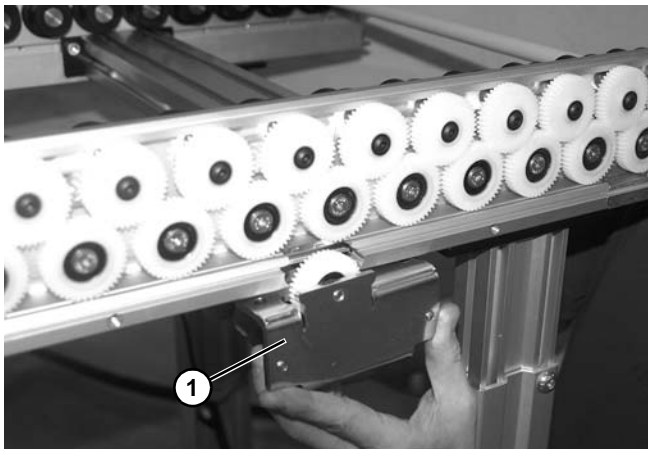
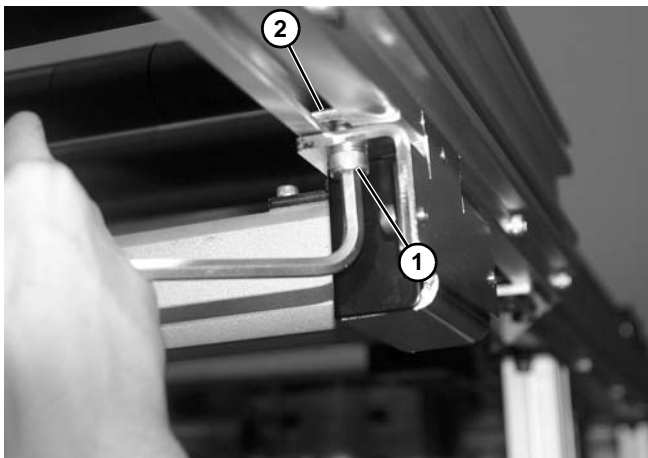

Figure 13
Figure 14
7. Raise the motor (**Figure 13, item 1**), into position, and attach the motor to the conveyor frame with two low head cap screws (**Figure 14, item 1**) onto the spring nuts (**Figure 14, item 2**). Tighten screws.